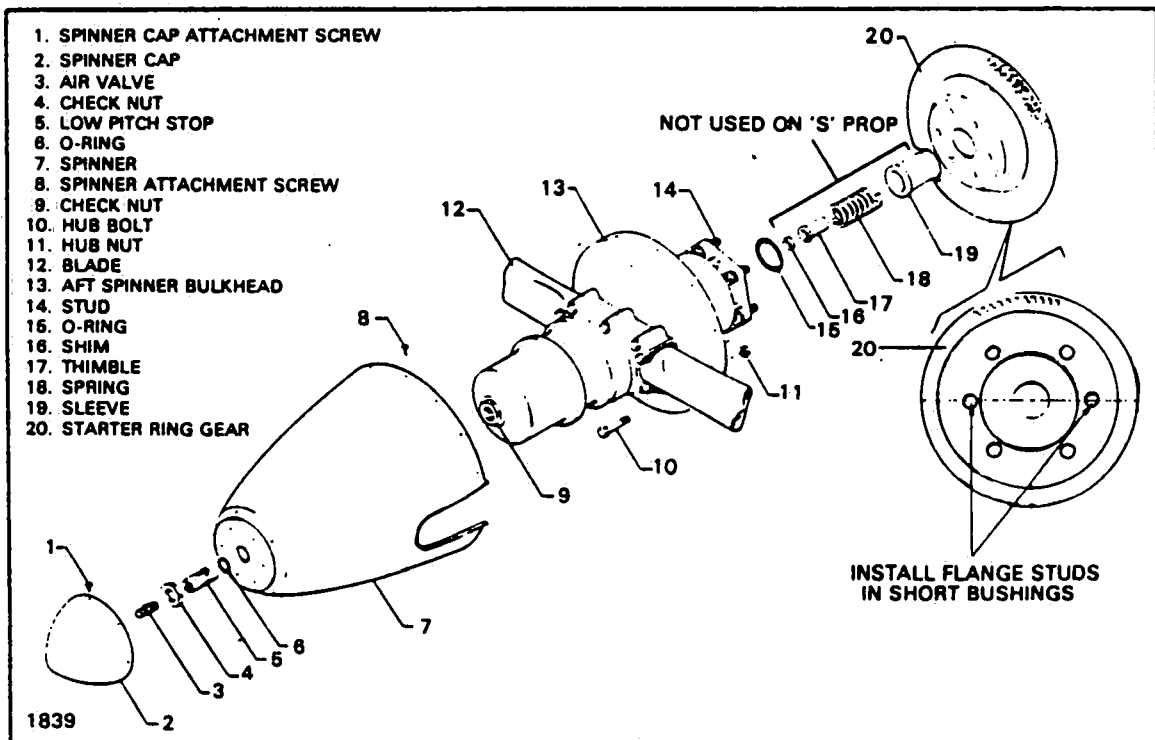

Figure 8-2. Standard Propeller Installation
#### 8-9. REMOVAL OF PROPELLER. (Refer to Figure 8-2.) This includes all propellers, standard and with spring backup kit installed, identified by a letter "S" in the dash number.
#### 8-11. INSTALLATION OF PROPELLER. (Refer to Figure 8-2.)
- Install spinner bulkhead (13) on propeller hub and secure with locknuts. Torque bolts to specifications given in Table VIII-I.
- Position the prop flange and starter ring gear so the two short bushings are horizontal. (Refer to Figure 8-2.)
- Lubricate and install "O" ring (15) in prop hub.
- Install sleeve (19), spring (18), thimble (17) and shim (16) in engine crankshaft on